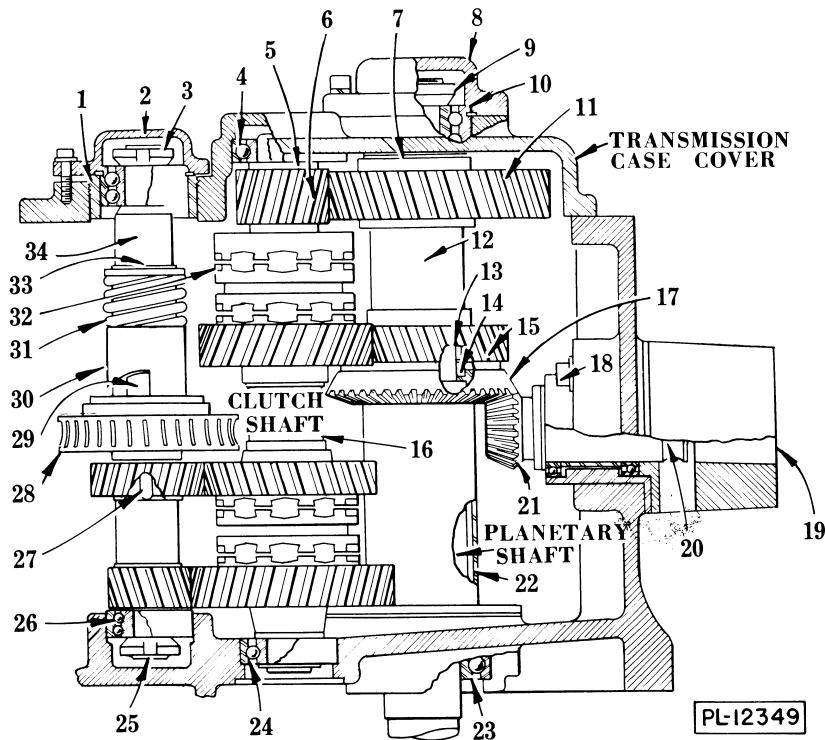

Fig. 7
To remove the transmission case cover take off the bearing retainers (2 & 8, Fig. 7). Take off the locking nuts (3 & 9, Fig. 7) and pry off the transmission case cover. The top ball bearings will come off with it. Lay the cover aside carefully so that the oil-delivery tube (20, Fig. 2) will not be bent.
The clutch shaft and worm gear shaft (16 & 34, Fig. 7) must be removed together. The worm gear shaft has a self-aligning ball bearing (26, Fig. 7) at the bottom, so that it can be tilted away from the worm far enough to clear it. Lift off the upper gear (11, Fig. 7) on the planetary shaft. Notice that the shim (7, Fig. 7) on top of this gear has the relieved side up.
On the clutch shaft, remove the bearing (4, Fig. 7), washer (5, Fig. 7), top pinion (6, Fig. 7), and clutch (32, Fig. 7). Then work the clutch shaft and worm gear shaft assemblies out together.
If the lower bearing (23, Fig. 7) must be withdrawn, it will be necessary to first remove the chimney (22, Fig. 7). When replacing the chimney, be sure to get a good seal between it and the transmission case, to prevent leakage of oil.
The attachment hub (19, Fig. 7) is fastened to the transmission case by four bolts (18, Fig. 7). The heads of these bolts being inside the case, a partial dis-assembly of the transmission will be necessary before the attachment socket or the bevel pinion (21, Fig. 7) can be removed.
Replacement of the square drive sleeve (20, Fig. 7) however, can be accomplished without disturbing
Start dis-assembly of the worm gear shaft from the bottom. When the locking nut (25, Fig. 7) is off, the gears and other parts will be loose on the shaft and may be taken off easily.
When re-assembling, put on the retaining ring (33, Fig. 7), the spring (31, Fig. 7), the shock absorber part (30, Fig. 7) and the worm gear (28, Fig. 7). It will then be necessary to use a vise or press to get these parts up where they belong. Press the worm gear up far enough to permit insertion of the key (27, Fig. 7). Release the vise pressure carefully and avoid burring the worm gear because the bottom of the hub acts as a thrust bearing. The key (27, Fig. 7) will hold the assembly in place until the remaining parts can be threaded on and pulled up tight by the locking nut (25, Fig. 7).
When a sudden load causes the worm gear to turn slightly on its shaft, the cams (29, Fig. 7) move the compressor element (30, Fig. 7) upward so that the spring takes the shock.
When re-assembling the transmission, be careful not to cock the outer race of the self-aligning ball bearing (26, Fig. 7). It is possible to install the worm gear shaft by itself and then raise it far enough to get the clutch shaft in place without pulling the bearing (26, Fig. 7) out of its seat. This will avoid the risk of cocking the outer race.
The worm gear must mate properly with the worm on the motor shaft, and a vertical adjustment is provided by a sleeve (1, Fig. 7). The sleeve is correctly set at the factory and locked by two small set screws, so unless replacements have been made no change will be necessary.
2. Take out the two small set screws (one on top of the other) that lock the sleeve (1, Fig. 7). Turn the sleeve (1, Fig. 7) a fraction of a turn in a clockwise direction until the motor shaft begins to bind when revolving the rotor by hand.
All gears in this assembly must be free to turn on the shaft and the clutches should slide freely up and down on the splines. If a clutch seems to bind, take it off, turn it to a new position and try again. **The top and bottom gears must have a few thousandths end play between the shaft shoulders and the washers that are between them and the ball bearings.** The lower bearing (24, Fig. 7) on the clutch shaft must be assembled to take the downward thrust (thin section of outer bearing race up).
An "O" ring (14, Fig. 7) is set in the bevel gear to prevent oil leakage down the planetary shaft. When moving the bevel gear (17, Fig. 7) on the shaft, be careful not to cut the "O" ring on the keyway (13, Fig. 7) that is just above it.
The bevel gear adjustment is governed by the thickness of the planetary-shaft shim (7, Fig. 7). This shim must be installed with **relieved side up and the flat side down.**
A new shim may be required if gear (11, Fig. 7), gear (15, Fig. 7), spacer (12, Fig. 7), or top bearing (10, Fig. 7) is replaced. A new bevel gear or pinion should not require any change in shims.